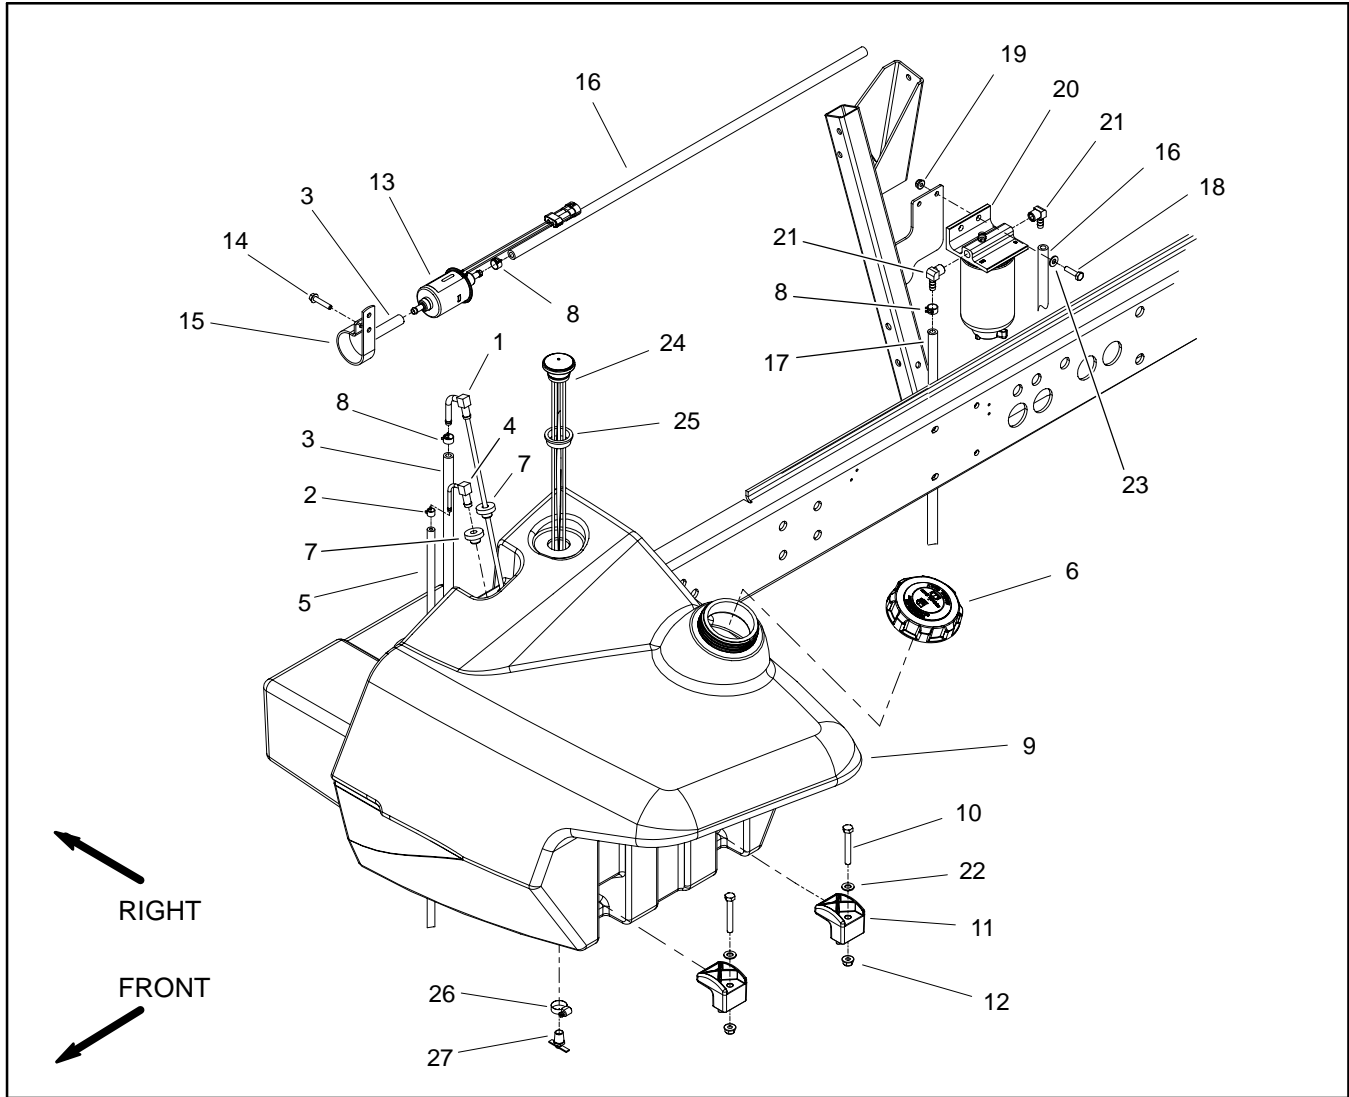

Figure 7
Fuel Tank Removal (Fig. 7)
4. Remove fuel tank using Figure 7 as a guide.
Fuel Tank Installation (Fig. 7)
1. Install fuel tank to frame using Figure 7 as a guide.